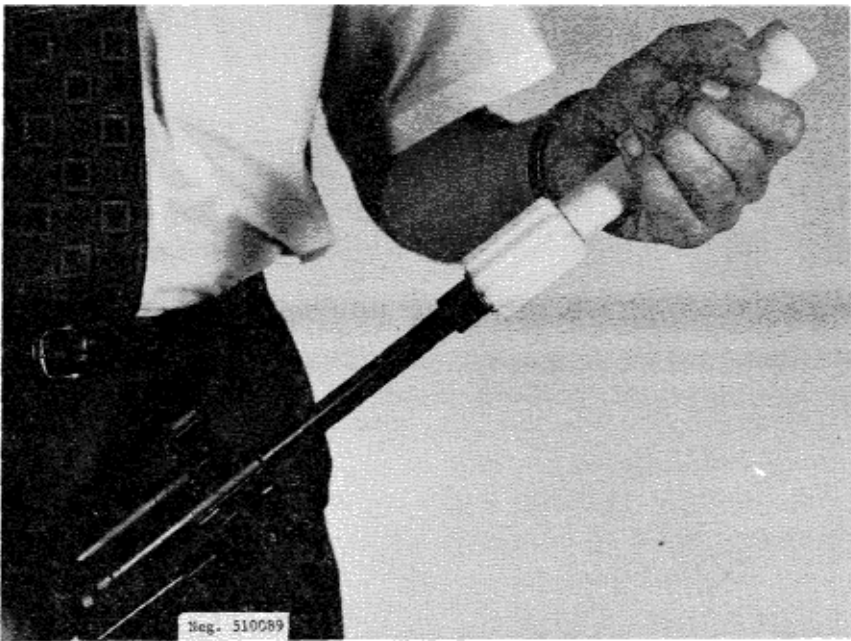

Figure 90. Loading a rifle grenade.
g. The Galil may be used to launch 22-mm ID tubed rifle grenades. A special 10-round capacity magazine for holding special (bulletless) grenade launching cartridges is available; however, individual launching cartridges may be directly inserted into the chamber. There are some 22-mm ID tubed grenades that can be launched by a 5.56-mm ball round; however, at present, only bulletless grenade launching cartridges (crimped cartridges) should be used to launch grenades from the Galil, to preclude injury to the firer or the rifle. Remove the magazine, retract the operating handle, insert a grenade launching cartridge into the chamber, release the operating handle, and move the selector(s) to safe. Remove a rifle grenade from its container and slide it over the flash hider (fig 90) as far as possible. If the grenade has a sight leaf packed with it, attach this to the grenade. Remove any safety pins or devices. Aim, using the ogive (largest diameter) of the grenade as a front aiming point, move the selector from safe, and press the trigger. CAUTION: Recoil is severe and some gas may be discharged from the ejection port. It is recommended that rifle grenades be fired only in emergency situations.